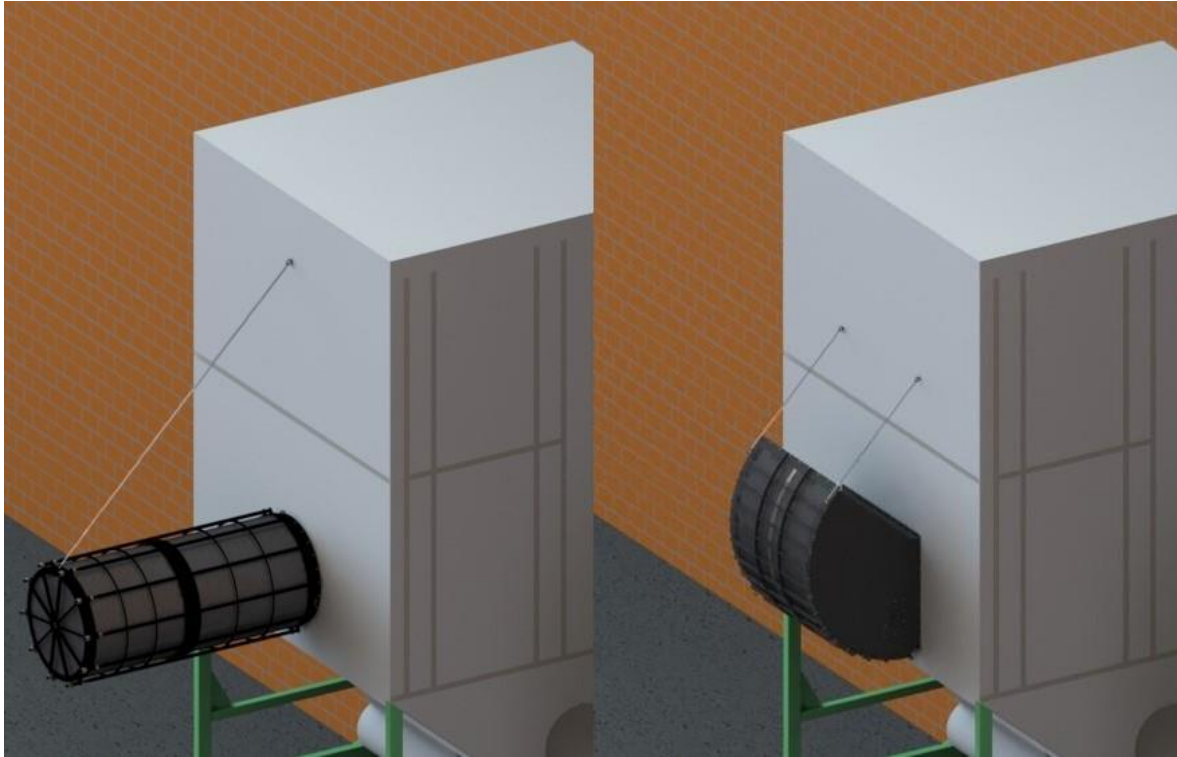

Figure 1 - recommended way of hanging (left FLEX C5 PRO; right FLEX R4 PRO)
(T) overhang has to be hung. This hanging must be done for the larger FLEX PRO (S) types see below. Figure 1 shows the recommended suspension method.